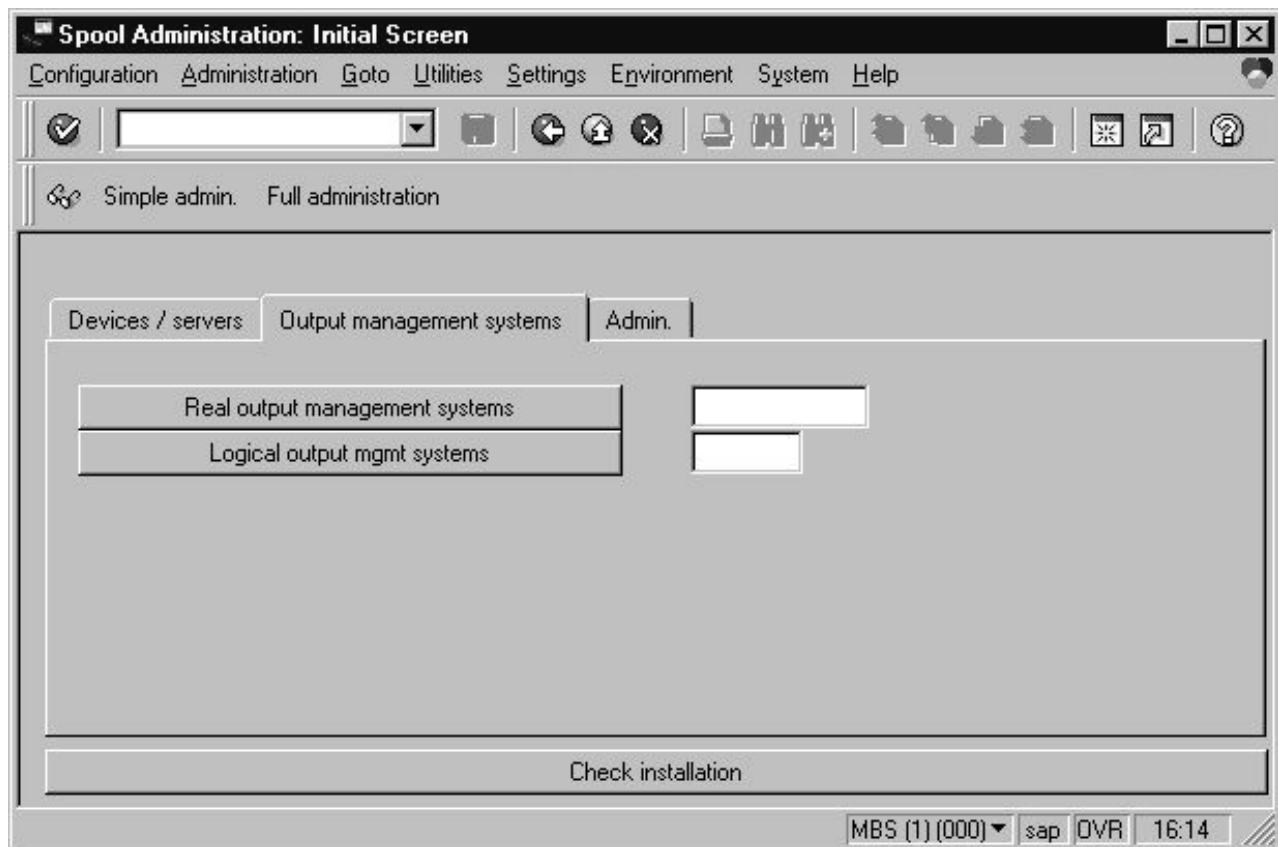

Figure 7. Spool Administration: Initial Screen – Output management systems view
- From the **Spool Administration: Initial Screen** window, click on the **Extended admin** push-button and select the **Logical OMS** push-button from the **Output management systems** pane (as shown in Figure 7 on page 35) to obtain a list of the Logical Output Management Systems (LOMS) available on your installation.